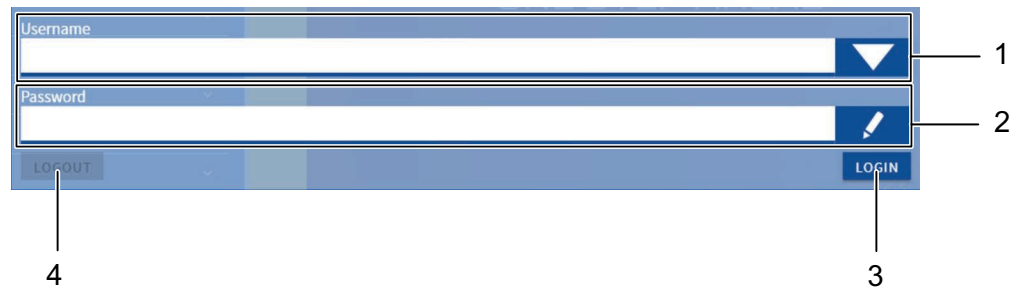

Fig. 48: User log-in window
- ➔ The user log-in window will open (cf. fig. 48)